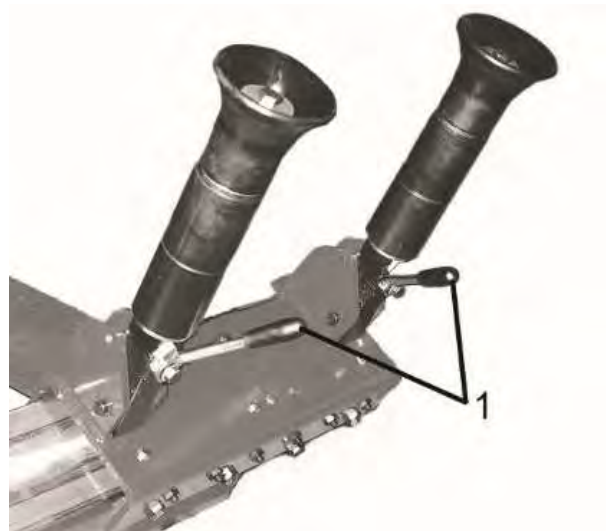

Fig.15
E. Use the toolholder arm lock levers (#1 Fig.15) to lock and release the toolholder arms.